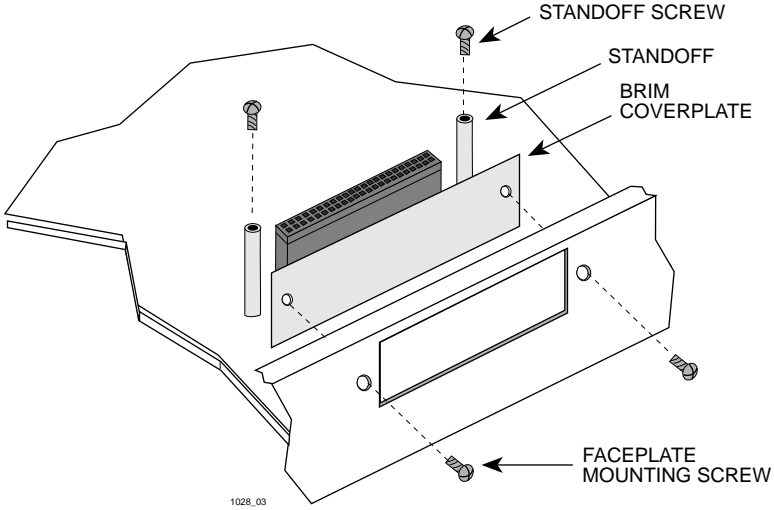

Figure 3-4 Removing the BRIM Coverplate
6. Remove the mounting screws and the BRIM coverplate. See Figure 3-4.
5. Remove the faceplate mounting screws and the BRIM coverplate. See Figure 3-4.